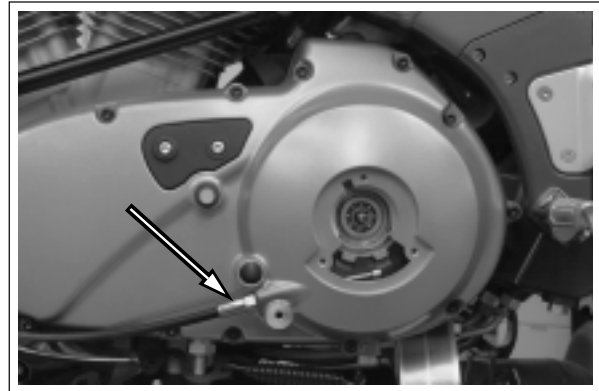

Figure 2-98. Clutch Cable and Fitting
16. See Figure 2-98. Unscrew the cable fitting from the primary cover. Remove clutch cable and fitting.